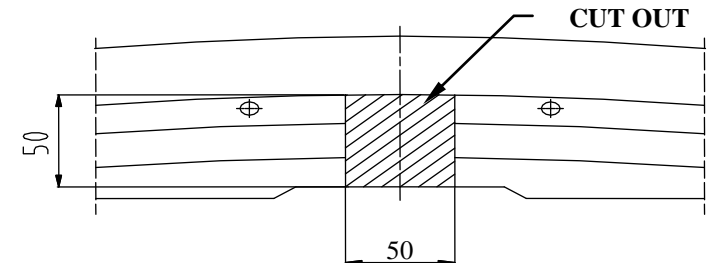

Fig.2.
3. In maked holes put sleeves $\varnothing 17$ mm (pos. 8), length = 73 mm.
4. To rear side put base bar of towbar (pos. 1) in that way, so holes pos. A agree to holes for unscrewed reinforcement and fix using bolts M8x35mm (loosely) – pos. 14.
5. Elements (pos. 4 and 5) put to chassis members and rear side and screw using bolts M10x110 mm (pos. 12) and M10x35mm (pos. 13).
6. Assemble masking cover and bumper after cut his fragment 50x50mm – see fig. 2.